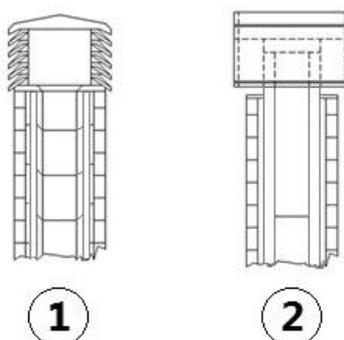

Fig. 4 - Anti-wind chimney pots
- We recommend using an anti-wind chimney pot, see **Fig. 4**.
- External chimney flue entirely made up of insulated stainless steel pipes, i.e. with double wall of minimum Ø100/120 mm: all must be firmly attached to the wall. For chimney against wind effects please (see **Fig. 4**).